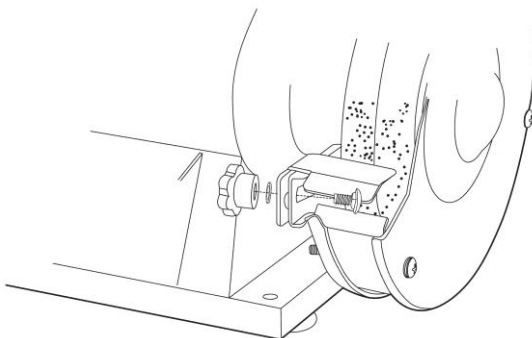

Fig.3
1. Hold the work piece support (2) against the rail on the wheel guard. Make sure the work piece support is facing the correct direction. The slanting corner should point away from the double grinder (Fig.3).